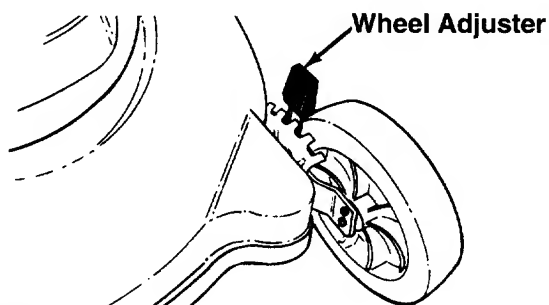

FIGURE 6.
- To change cutting height, move adjuster levers toward wheels. See figure 6. Move wheels up or down to suit your requirements. Be sure all four levers are in the same setting.